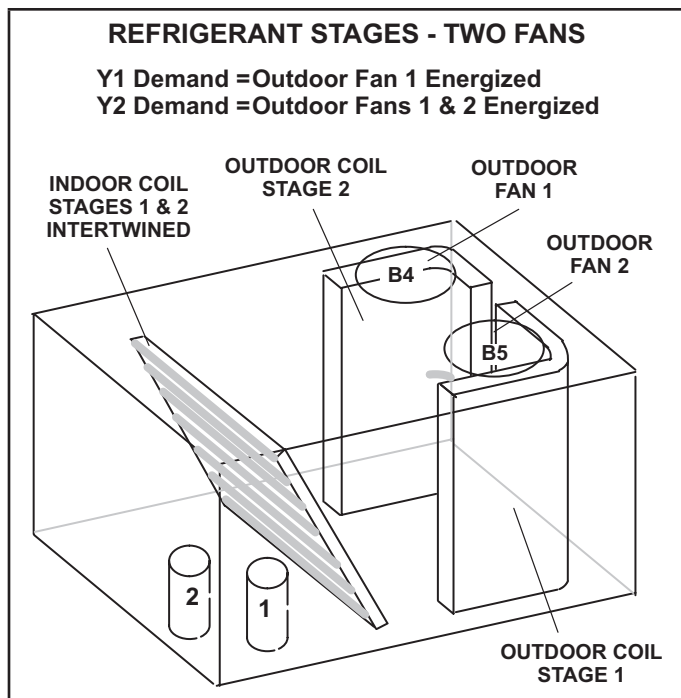

FIGURE 16
- 3 - Units contain two refrigerant circuits or stages. See FIGURE 16.